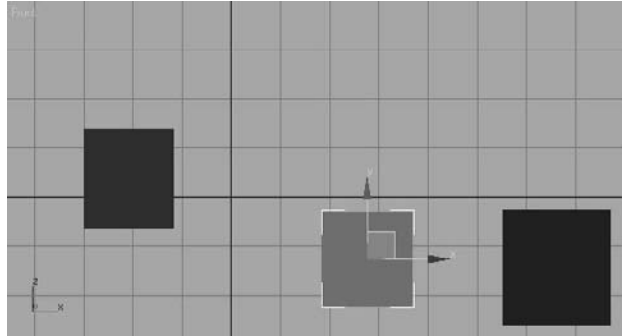

Figure 2.34
4. Click the Move tool () and select the middle box. Move it around in the viewport. The box on the right (the child) will now follow as shown in Figure 2.34. Click the child box on the right, and move it. Notice the child can move independently of its parent (the box in the middle).